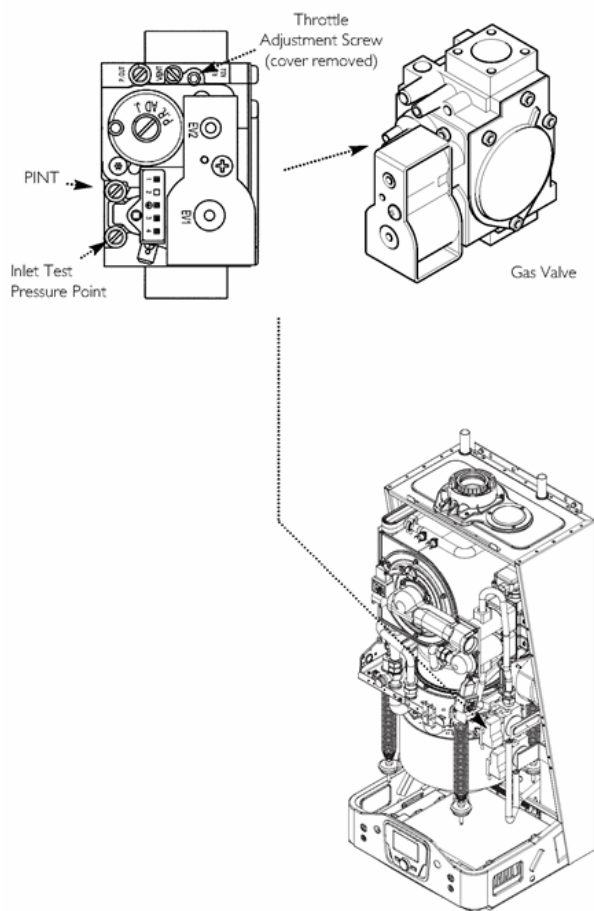

Fig. 50
8. With the boiler operating in the maximum rate condition check that the operational (working) gas pressure at the inlet gas pressure test point (Fig. 50) is in accordance with B.S. 6798 & B.S. 6891.